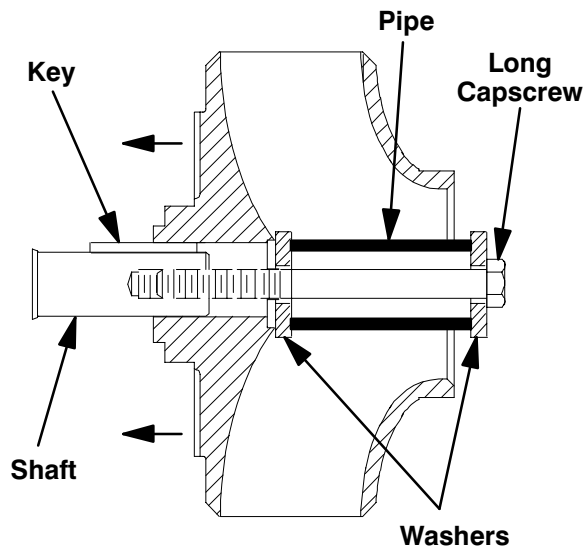

Figure 8. Installing Impeller
Install the key (57) in the shaft keyway. Install the same thickness of impeller shims (70) as previously removed and position the impeller on the shaft. See Figure 8, and use a section of pipe, washers and a long, 5/8–11 UNC capscrew to press the impeller onto the shaft until fully seated (**do not use the impeller lock screw**). Make sure the spring holder seats squarely inside the seal spring.